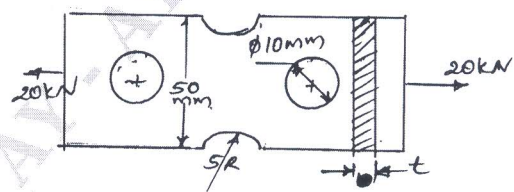

Fig.Q3(a) (06 Marks)
- 3 a. Determine the thickness of rectangular plate as shown in Fig.Q3(a). The maximum stress in the plate is 130 MPa. Take stress concentration into account.